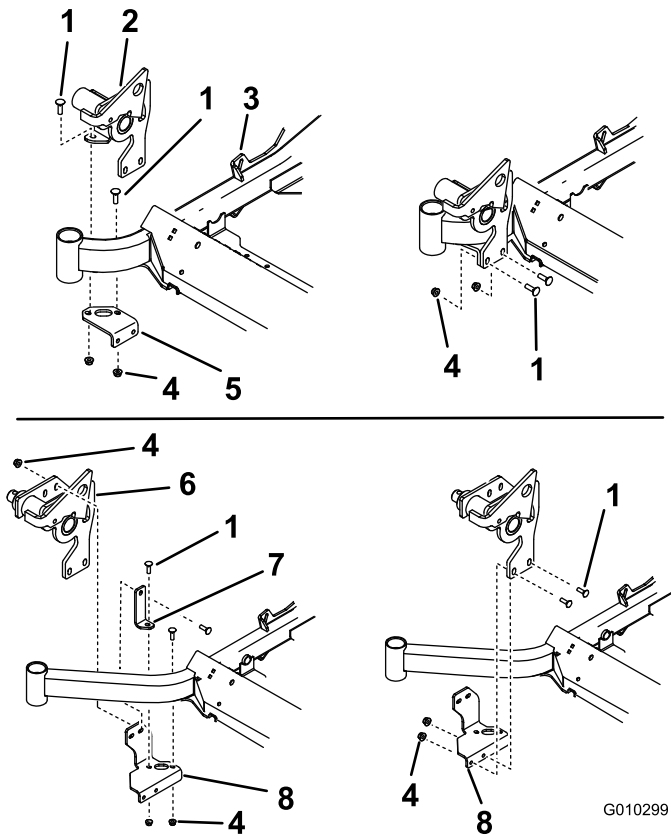
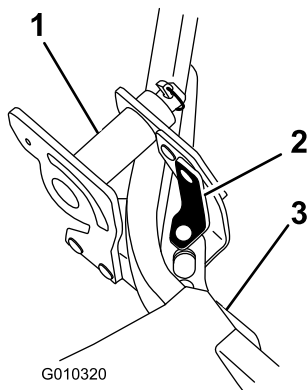

Figure 2
Figure 3
1. Place the Z Stand hub on the right front frame as shown in Figure 2.
2. For 48, 52 and 60 inch mowers, install the Z Stand hub to the frame with the bottom bracket, 4 carriage bolts (3/8 x 1-1/4 inches) and 4 flange nuts (3/8 inch) (Figure 2).
3. For 72 inch mowers, install the Z Stand hub to the frame with the bottom bracket, the angle bracket, 6 carriage bolts (3/8 x 1-1/4 inches) and 6 flange nuts (3/8 inch) (Figure 2 and Figure 3).